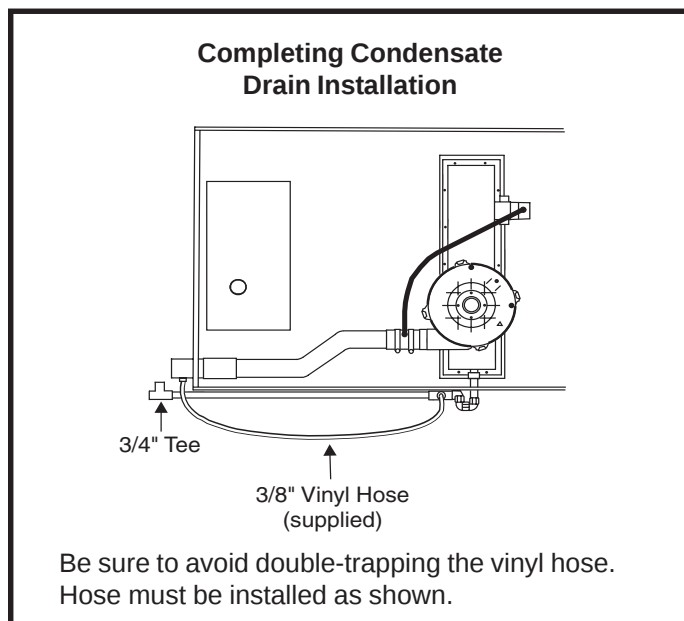

Figure 25
4. Connect a length of 3/4" PVC pipe (3' minimum) to the trap assembly (see Figure 25).
5. Install 3/4" tee (supplied) as shown in Figure 25.